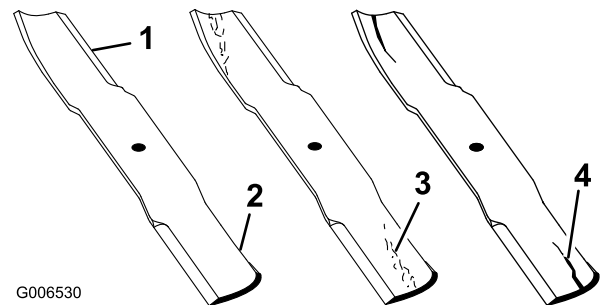

Figure 54
1. Inspect the cutting edges (Figure 54). If the edges are not sharp or have nicks, remove and sharpen the blades. Refer to Sharpening the Blades.
2. Inspect the blades, especially the curved area (Figure 54). If you notice any cracks, wear, or a slot forming in this area (item 3. in Figure 54), immediately install a new blade.